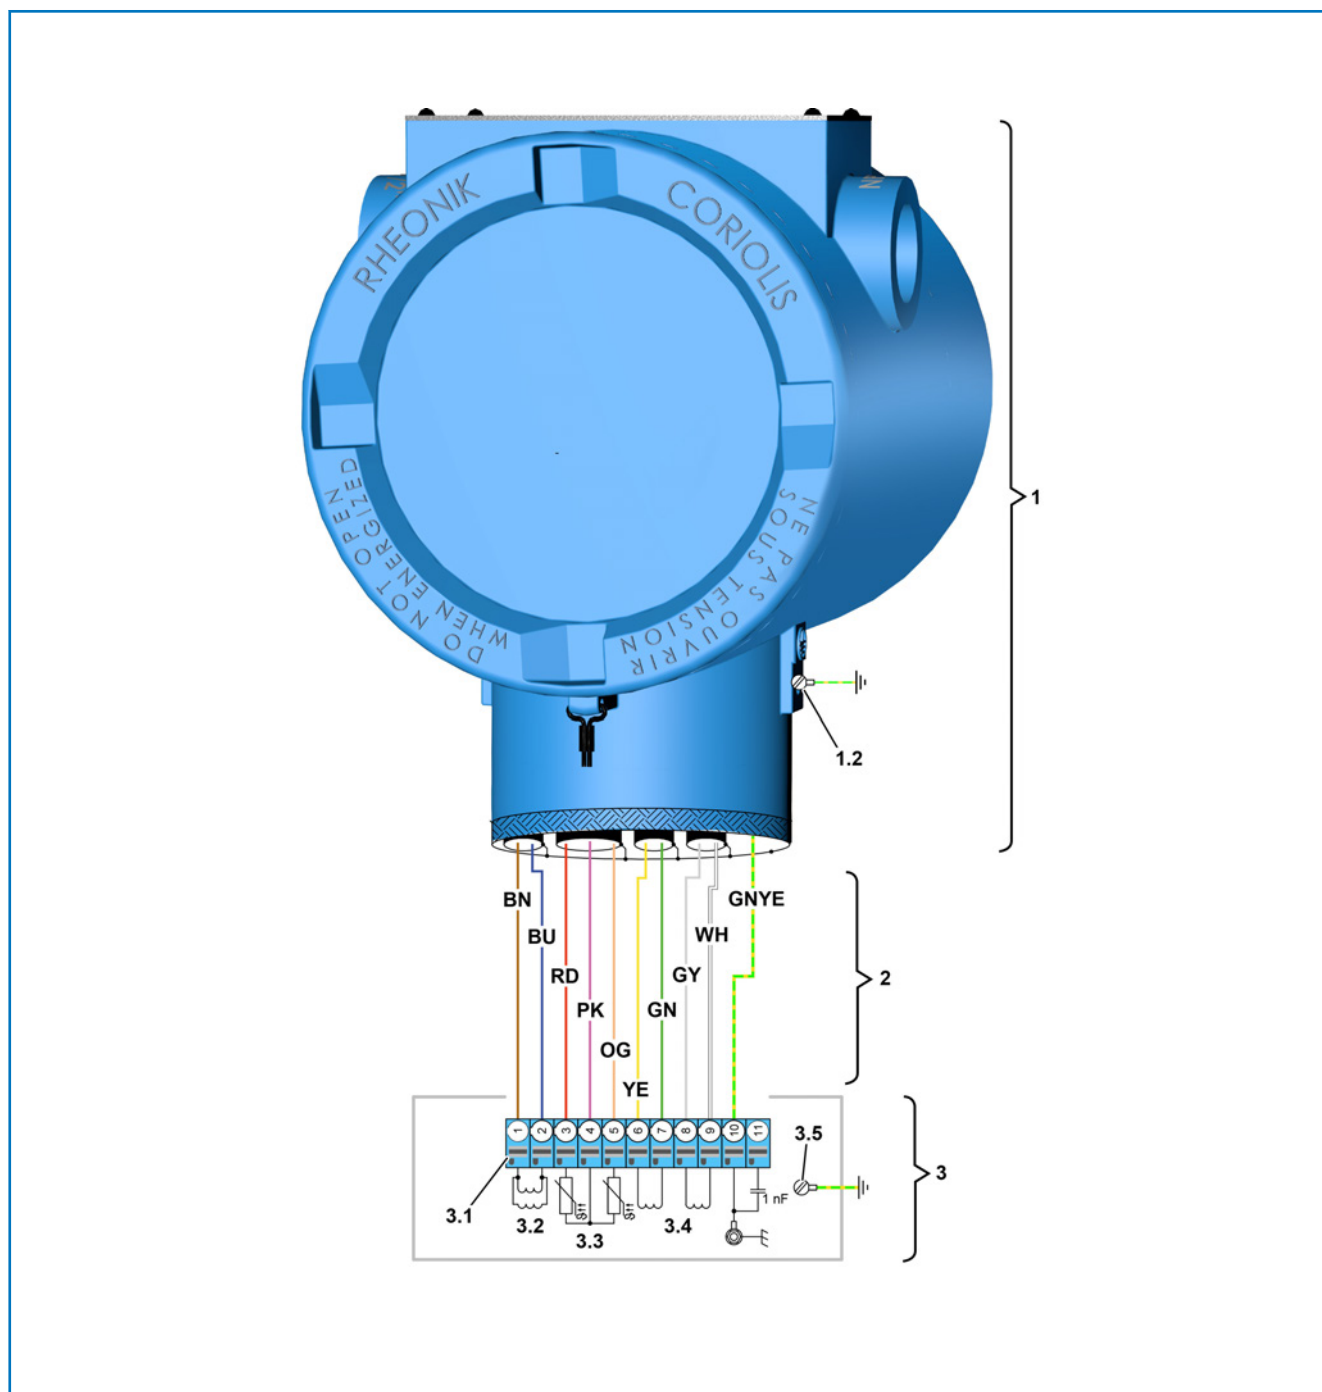

Fig. 6: Wiring diagram for the RHE42-R* Coriolis transmitter to the RHM Coriolis sensor
2. ➤ Undo the cable gland on the RHM Coriolis sensor (3).
3. ➤ Unscrew the fastening screws on the cover of the RHM Coriolis sensor (3) and remove the cover.
4. ➤ Guide the connecting cable (ARHE-Cx) (2) through the housing to the connection terminal (3.1).
5. ➤ Connect the connecting cable (ARHE-Cx) (2) to the RHM Coriolis sensor (3) in accordance with the wiring diagram; see: Figure 6.